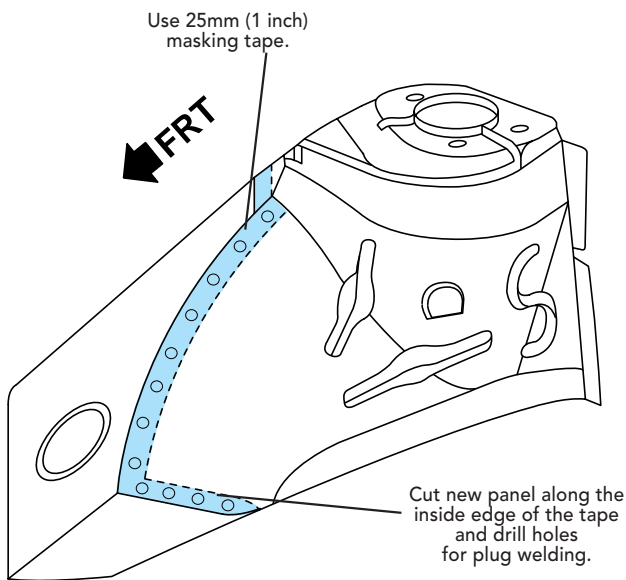

Fig. 4.7 — New Service Panel
- 1 When preparing the service part, cut the forward apron well beyond the 25mm (1 inch) overlap needed for sectioning (Fig. 4.7).
- 2 Temporarily position the new wheelhouse section on the vehicle, and mark a line on the new wheelhouse section by tracing along the cut line of the original wheelhouse (Fig. 4.7). Remove the new wheelhouse section.
- 4 Drill an 8mm (5/16 inch) hole every 35mm along the overlap on the new wheelhouse section (Fig. 4.7).